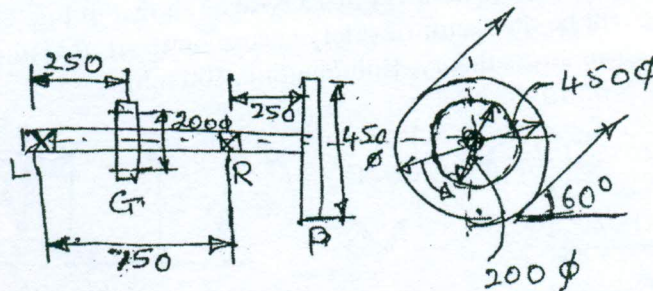

Fig. Q5
- 5 A machine shaft running at 600 rev/min is supported on bearings 750 mm apart as shown in Fig. Q5. Fifteen KW is supplied to the shaft through a 450 mm Pulley (P) located 250 mm to the right of the right bearing (R). The power is given away from the shaft through a 200 mm spur gear (G) located 250 mm to the right of the left bearing (L). The belt drive is at angle of 60° above the horizontal. The pulley weighs 800 N to provide some flywheel effect. The ratio of belt tensions is 3 : 1. The gear has a 20° tooth form and mates another gear located directly above it. The shaft material has an ultimate strength of 500 MPa and a yield strength of 310 MPa. Determine the necessary diameter of shaft as per ASME standards. Take the load factors in bending and torsion as 1.5 and 1.0 respectively and also keyway effects due to mounting of gear and pulley. The shaft rotates CCW looking from left as shown. (20 Marks)